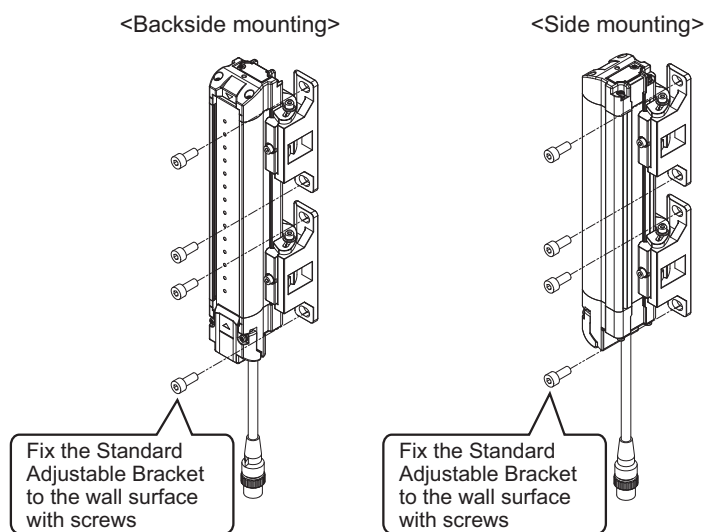

Fig. 4
5. Securely tighten screws to fix the Standard Adjustable Bracket to the mounting position of the wall surface. (Fig. 4)